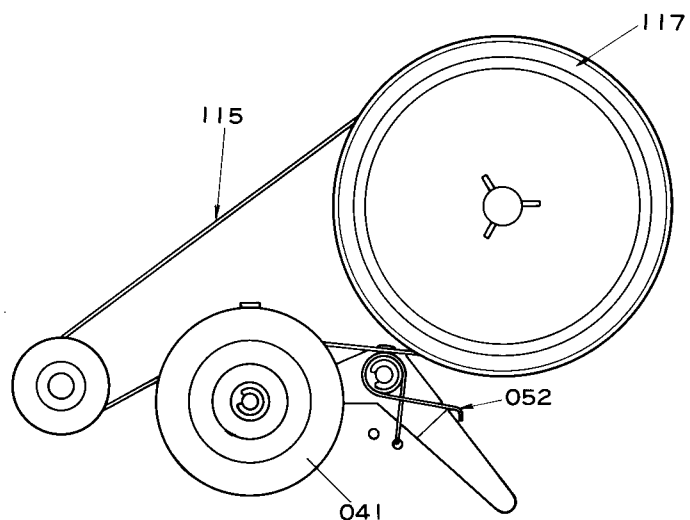

Fig. 8
*** TAKE UP TENSION ADJUSTMENT** (Refer to Fig. 8)
- (1) Put 7-inch test reel on the take-up reel spindle (117) and then turn on the power supply switch.
- (2) Hook a tension gauge on the test reel and shift the function selector knob (005) in playback position.
- (3) At the time, shift the shut-off switch (SW7) in ON position by pressing the shut-off switch lever (104).
- (4) If the set is normal, the take-up tension is 150 ± 30 g.cm in playback mode.
- (5) If the tension is out of this range, change the position of fast forward roller lever (041) spring (052) or bend it by pliers. In case such a measure does not work, change the spring (052) or take-up reel spindle drive belt (115).